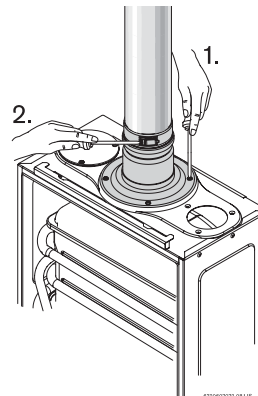

Fig. 10 Exhaust vent connection
- ▶ Insert single wall stainless steel vent pipe into the exhaust vent adapter 1.5" and tighten the clamp (Fig. 10 position 2).